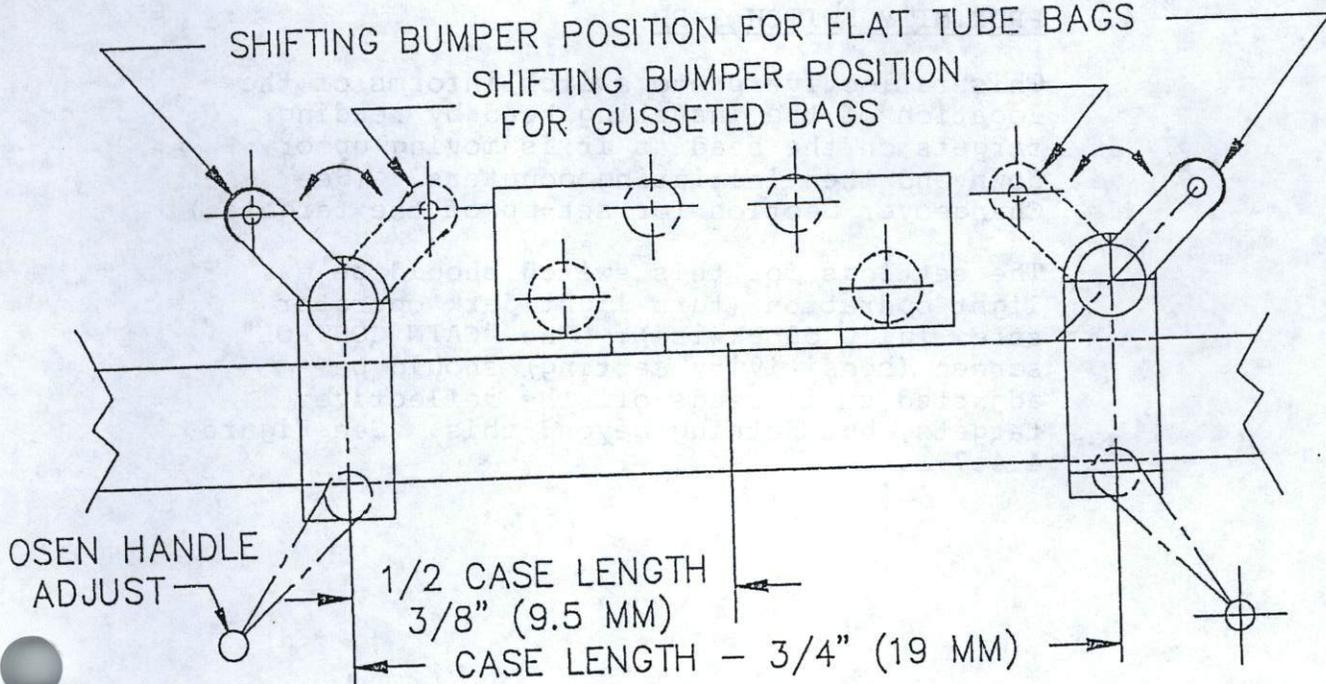

FIGURE 4.4.6-1
1. Loosen cup clamp screw and position the bellows of each rear cup  $3/4$ " (18 mm) from the front edge of rear vacuum bar. Also, pivot the outside rear shifting bumpers until the top of each bumper is flush with the top of the vacuum cups. Lock cups in place. See Figure 4.4.6-1.
2. Loosen jam nuts on threaded rod bumper mounts and adjust until bumpers are flush with the bellows of the rear vacuum cups. Lock in position. See Figure 4.4.6-1.
3. Manually retract the front vacuum bar until the cam follower contacts the stop pad. Loosen and adjust the front vacuum cups to a  $7/16$ " (11 mm) dimension between front and rear cup mount, keeping the front shifting bumpers flush with the top of the vacuum cups. See Figure 4.4.6-1.
4. Loosen jam nuts on threaded rod bumper mounts and turn out the front shifting bumpers until they contact the rear shifting bumpers plus one turn to allow the bumpers to compress when the machine is in operation. See Figure 4.4.6-1.